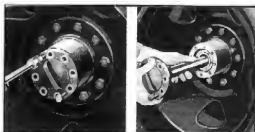

Fig. 15—Loosening and Removing Axle Shaft
3. Install two 7/16" 14 cap screws in the threaded holes provided in the axle shaft flange. Turning these cap screws alternately, the axle shaft may easily be removed. Remove the axle shaft and aluminum gasket, Fig. 15.